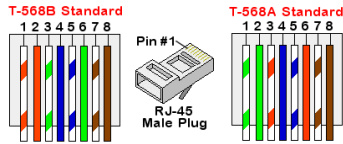

Figure 32: Ethernet connector - pin layout
CAT6 cables have eight wires (four twisted pairs), as shown in the pin layout of the Ethernet connector in *Figure 32*. Wire colors may differ from one cable to another. You can use either wiring standard, as long as both sides of the cable have the same pin-out
- Insert the eight wires into an RJ45 connector, as shown in *Figure 32*.